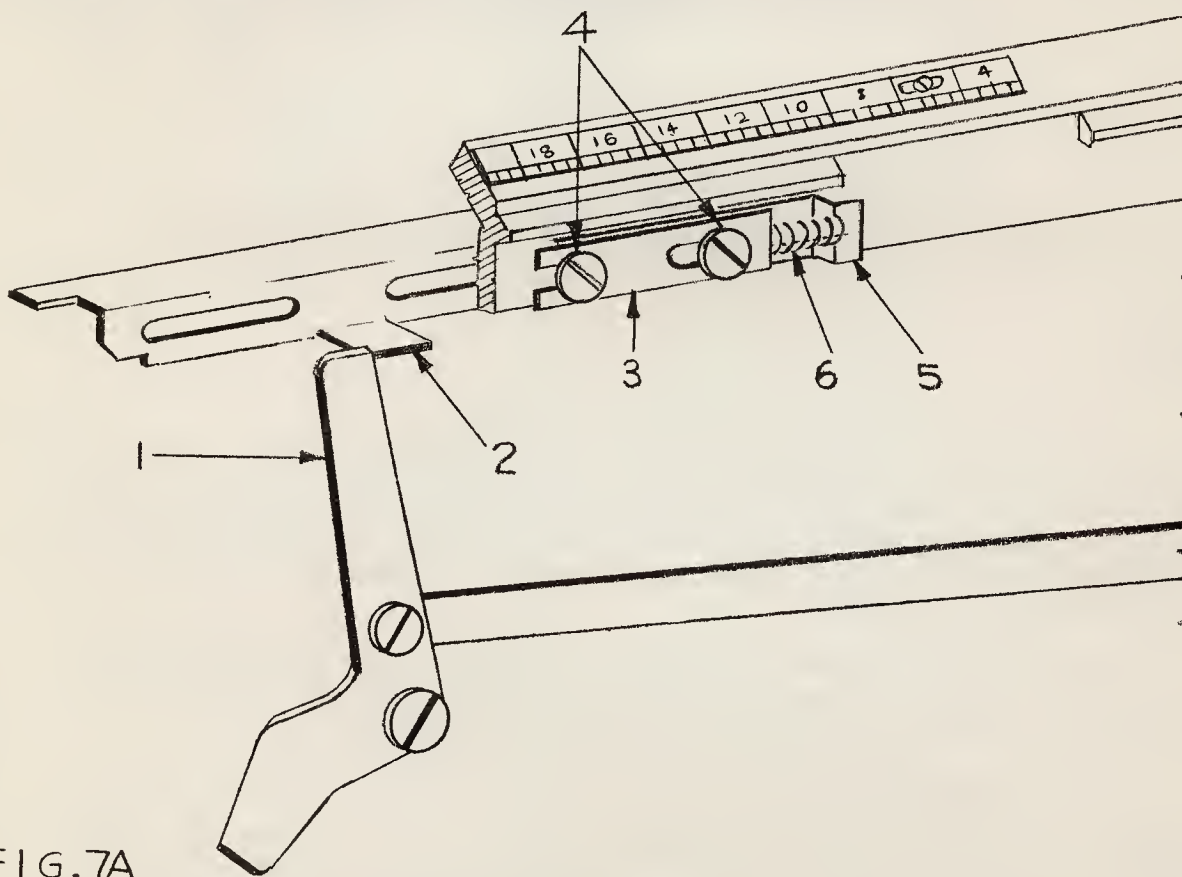

FIG. 7A
(H) Duplex or Lateral Rail (Fig. 7a)